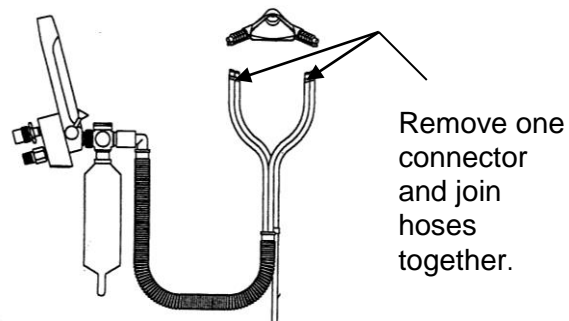

FIGURE 1
Disassemble the fresh gas tubing from the mask and "Y" connector, and breathe back into the fresh gas corrugated tubing (Figure 1, Item 9) connected to the flowmeter. You should not be able to fill the reservoir bag with exhaled gas. If the bag fills, this breathing circuit has no NRV and would allow for carbon dioxide (CO₂) buildup in the breathing bag.
3. **Rubber Goods to Bag Tee:** (Refer to item (#) in parts list on the next page and Figures 1 and 2 on pages 4 and 5 for assembly and hook-up options.)
- D. Attach Vacuum Hoses (#8): Refer to Figure 1 page 4.
| ITEM | PART NUMBER. / REF | DESCRIPTION (Refer to Figure 1 for Assembly & Figure 2 for Options for Vacuum Hook-up.) |